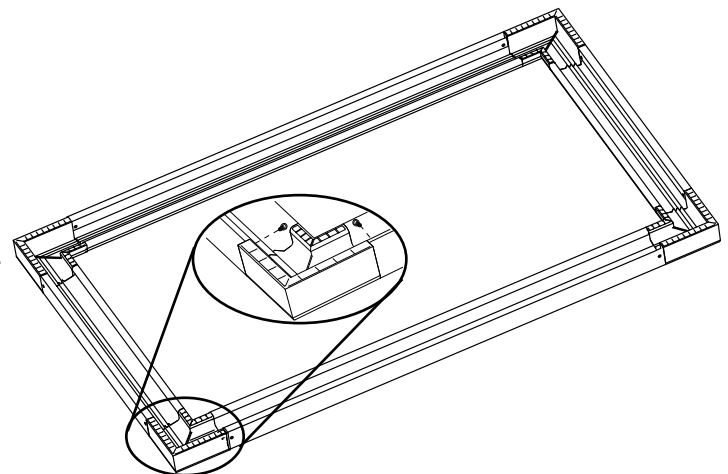

Figure 5
- ② Check to verify that all four (4) plastic corners are seated securely in aluminum frame extrusion lengths (see Fig. 5). Lock in place using eight (8) self-tapping screws.